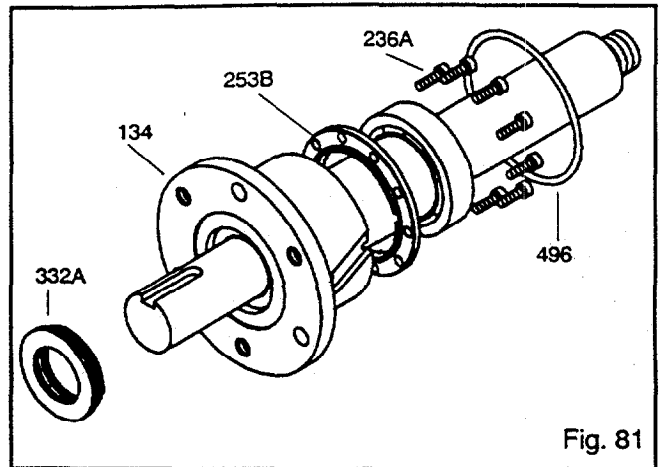

Fig. 81
11. Install clamp ring bolts (236A). Check shaft for free turning. Refer to Table 9 for bolt torque values (Fig. 81).